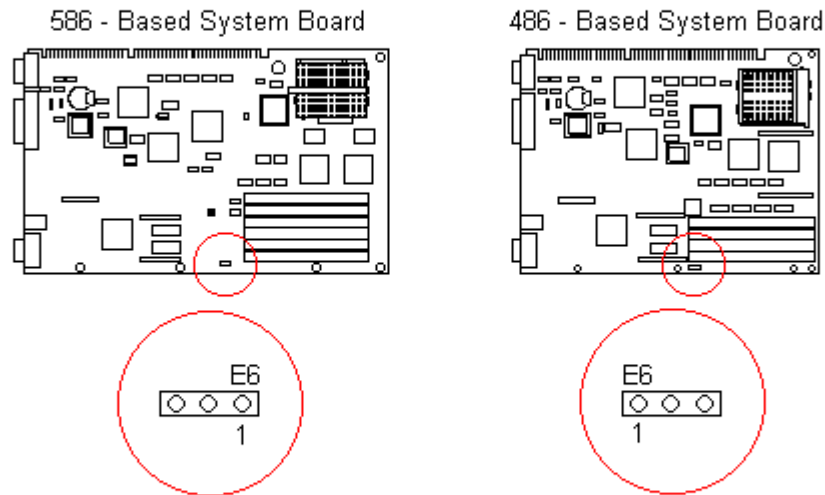

Figure 2-1. Power-On Password Jumper
3. Move the jumper on E6 (Figure 2-1) from pins 1 and 2 and to pins 2 and 3.